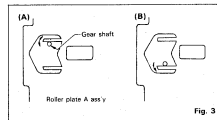

Fig. 3
If any abnormal sound is heard during PLAY operation, adjust gear engagement as follows. First identify the gear causing the abnormal sound. Then, adjust projection of the roller plate A ass'y by bending it in an appropriate direction as shown in Fig. 3: (A) when the FWD gear causes abnormal sound, (B) when the REV gear causes abnormal sound.